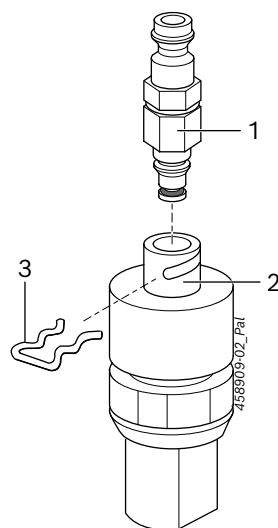

Fig. 1: Return adapter 1 687 016 138
The return adapter 1 687 016 138 (Fig. 1, item 1) connects the return line of the Siemens / VDO / Continental piezo CRI (Fig. 1, item 2) to the return quantity test connection on the EPS 200 / EPS 205 using the hose assembly 1 680 712 289.
i Secure the return adapter using the locking clamp (Fig. 1, item 3). The locking clamp comes with the injector.